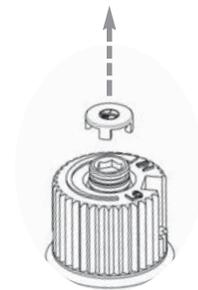

Fig. 1
- Remove the black protection cap by hand from the high-low knob (Fig.1).